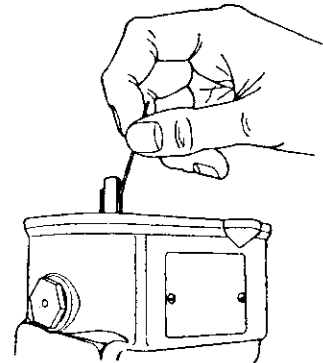

Figure 7.10.6
- K. Apply cam grease sparingly to each lobe of the cam. (See Figure 7.10.6).
- D. Apply cam grease sparingly to each lobe of the cam. (See Figure 7.10.6).